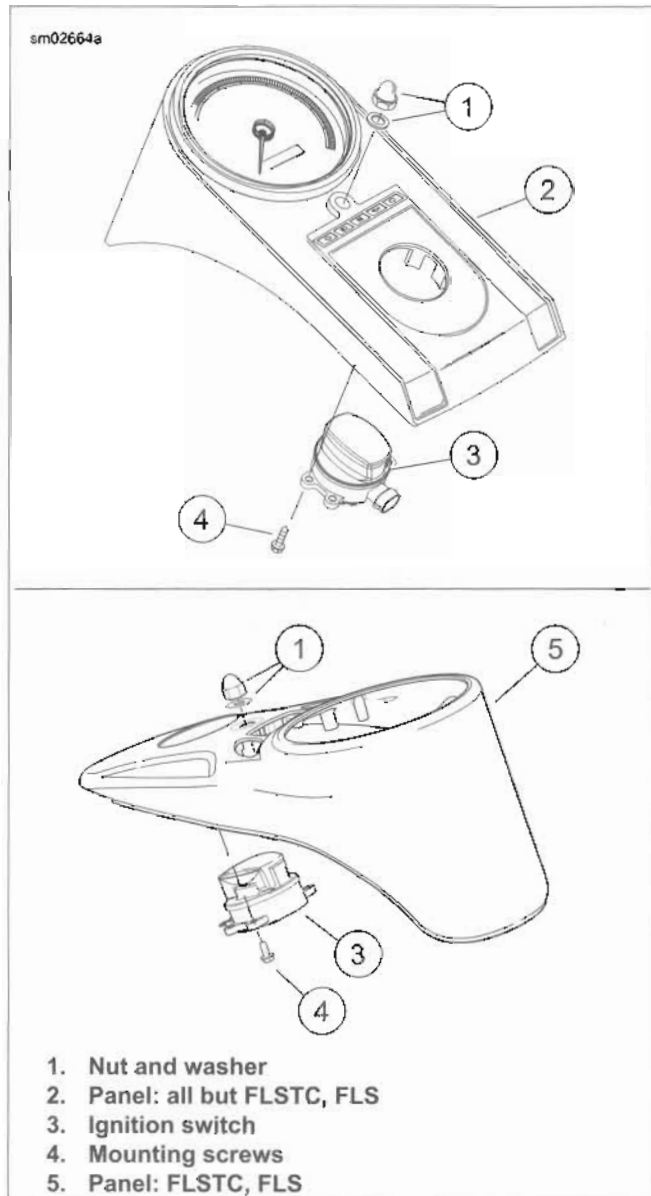

Figure 7-20. Ignition Switch: All But FXSB
3. See Figure 7-20. Remove acorn nut and washer (1) from panel (2 or 5) and remove panel.
5. Remove mounting screws (4). Replace switch.
6. Install mounting screws (4).